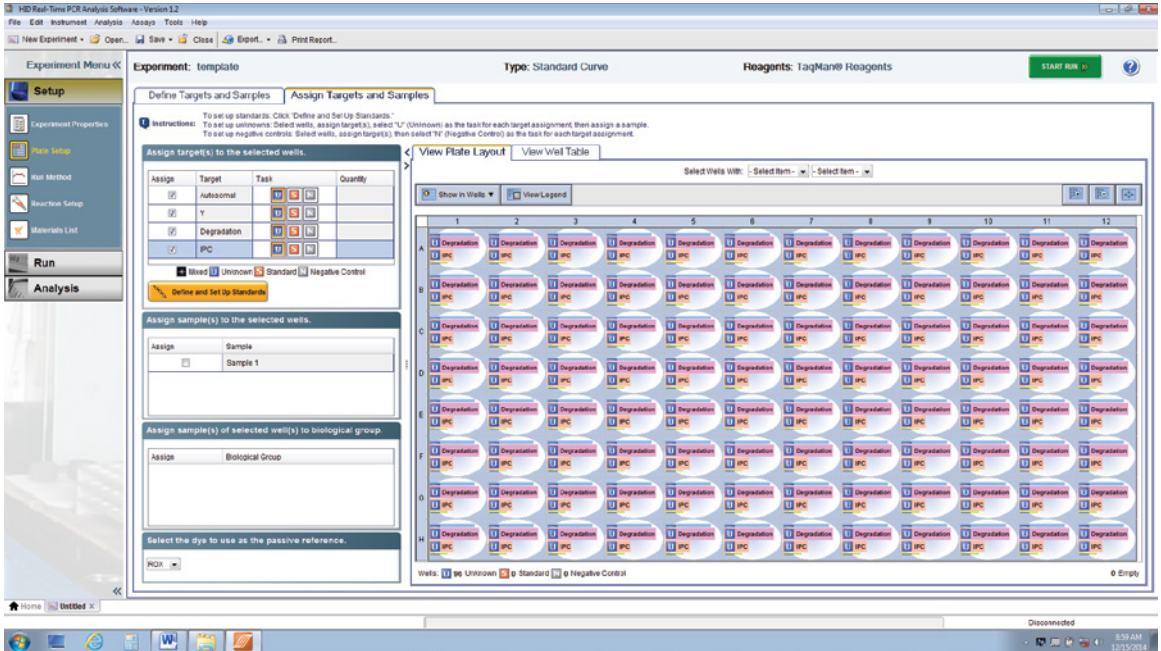

Figure 25. Assigning targets to wells.
9. Select the 'Assign Targets and Samples' tab (Figure 25), and highlight the wells in use on the 'View Plate Layout' tab by dragging the pointer over the plate wells. Assign all four targets to the selected wells by selecting the boxes under "Assign".
6. When all sample names are entered, navigate to the 'Assign Targets and Samples' tab (Figure 25). Highlight the well or wells that contain replicates of the same sample, and check the Assign box adjacent to the corresponding sample name in the "Assign sample(s) to the selected wells" section of the 'Assign Targets and Samples' tab. Repeat until all samples are assigned.